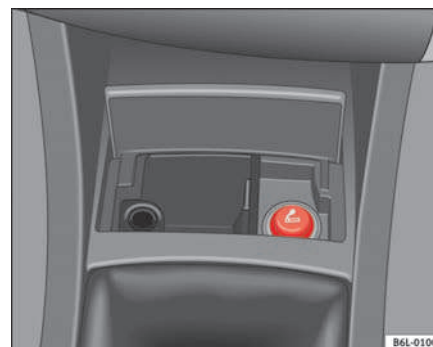

Fig. 83 Cigarette lighter
- Press on the cigarette lighter ⇒ fig. 83 to activate it ⇒